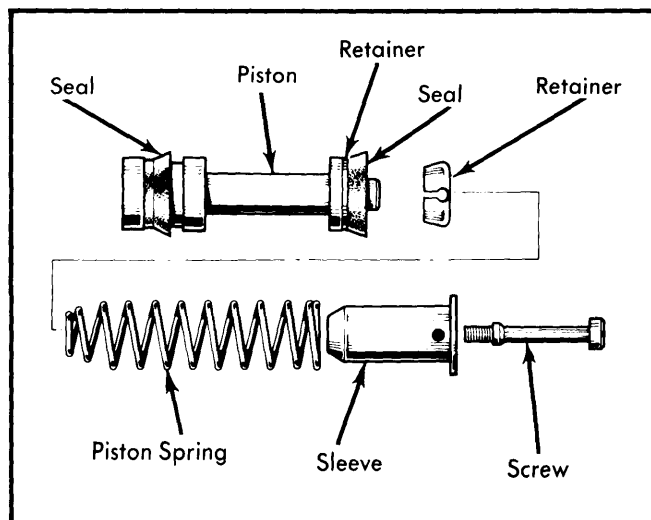
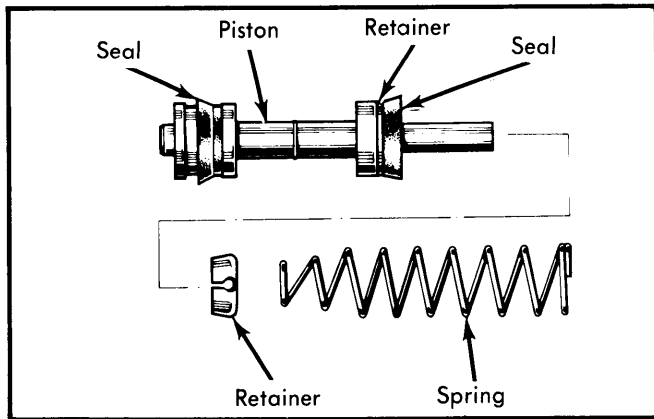

Fig. 10 Parts Relationship of Primary Piston Assembly
Fig. 11 Parts Relationship of Secondary Piston Assembly
3) Slide out primary piston assembly. Tap master cylinder softly in palm of hand to jar out secondary piston assembly. Disassemble primary and secondary pistons. See Fig. 10 and Fig. 11.
Reassembly — 1) Install new secondary piston seals and secure in place with retainer and spring to piston. Refer to Fig. 11 for correct seal installation. Lightly coat secondary piston assembly in brake fluid and slide into cylinder bore.
2) Fit new primary piston seals (See Fig. 10) and secure in place with retainer, spring, sleeve and screw. Lightly coat primary piston assembly in brake fluid and slide into cylinder bore.